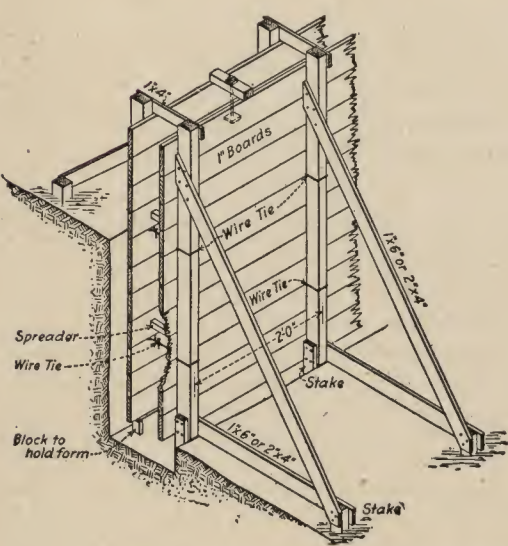

Fig. 11—Forms for wall in soft earth.
68. Figure 11 shows foundation wall forms for both sides. The one next to the earth is supported on small blocks so that the concrete can flow out and make a broader base or footing. The inside form rests on stakes. This diagram shows how bolts can be placed in the top of the wall to fasten sills to the foundation.